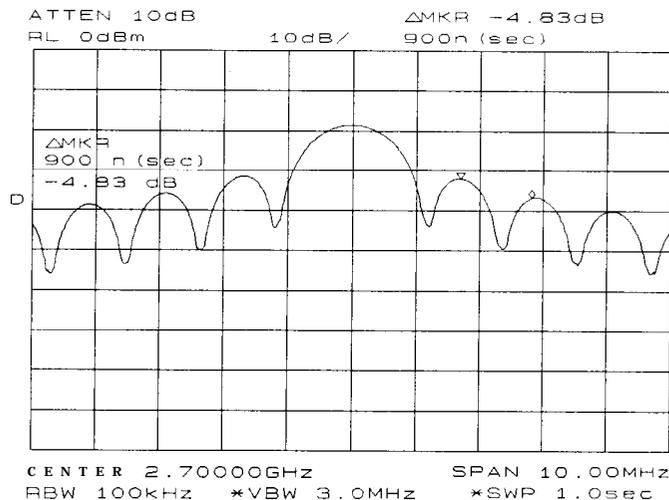

Figure 2-85. Markers Show Pulse Width
- The pulse width is equal to the time value displayed in the active function block on the spectrum analyzer screen, as in Figure 2-85. For best pulse-width accuracy, measure the distance between two adjacent lobe nulls by manually adjusting the marker positions. If desired, first reduce the resolution bandwidth for sharper nulls.